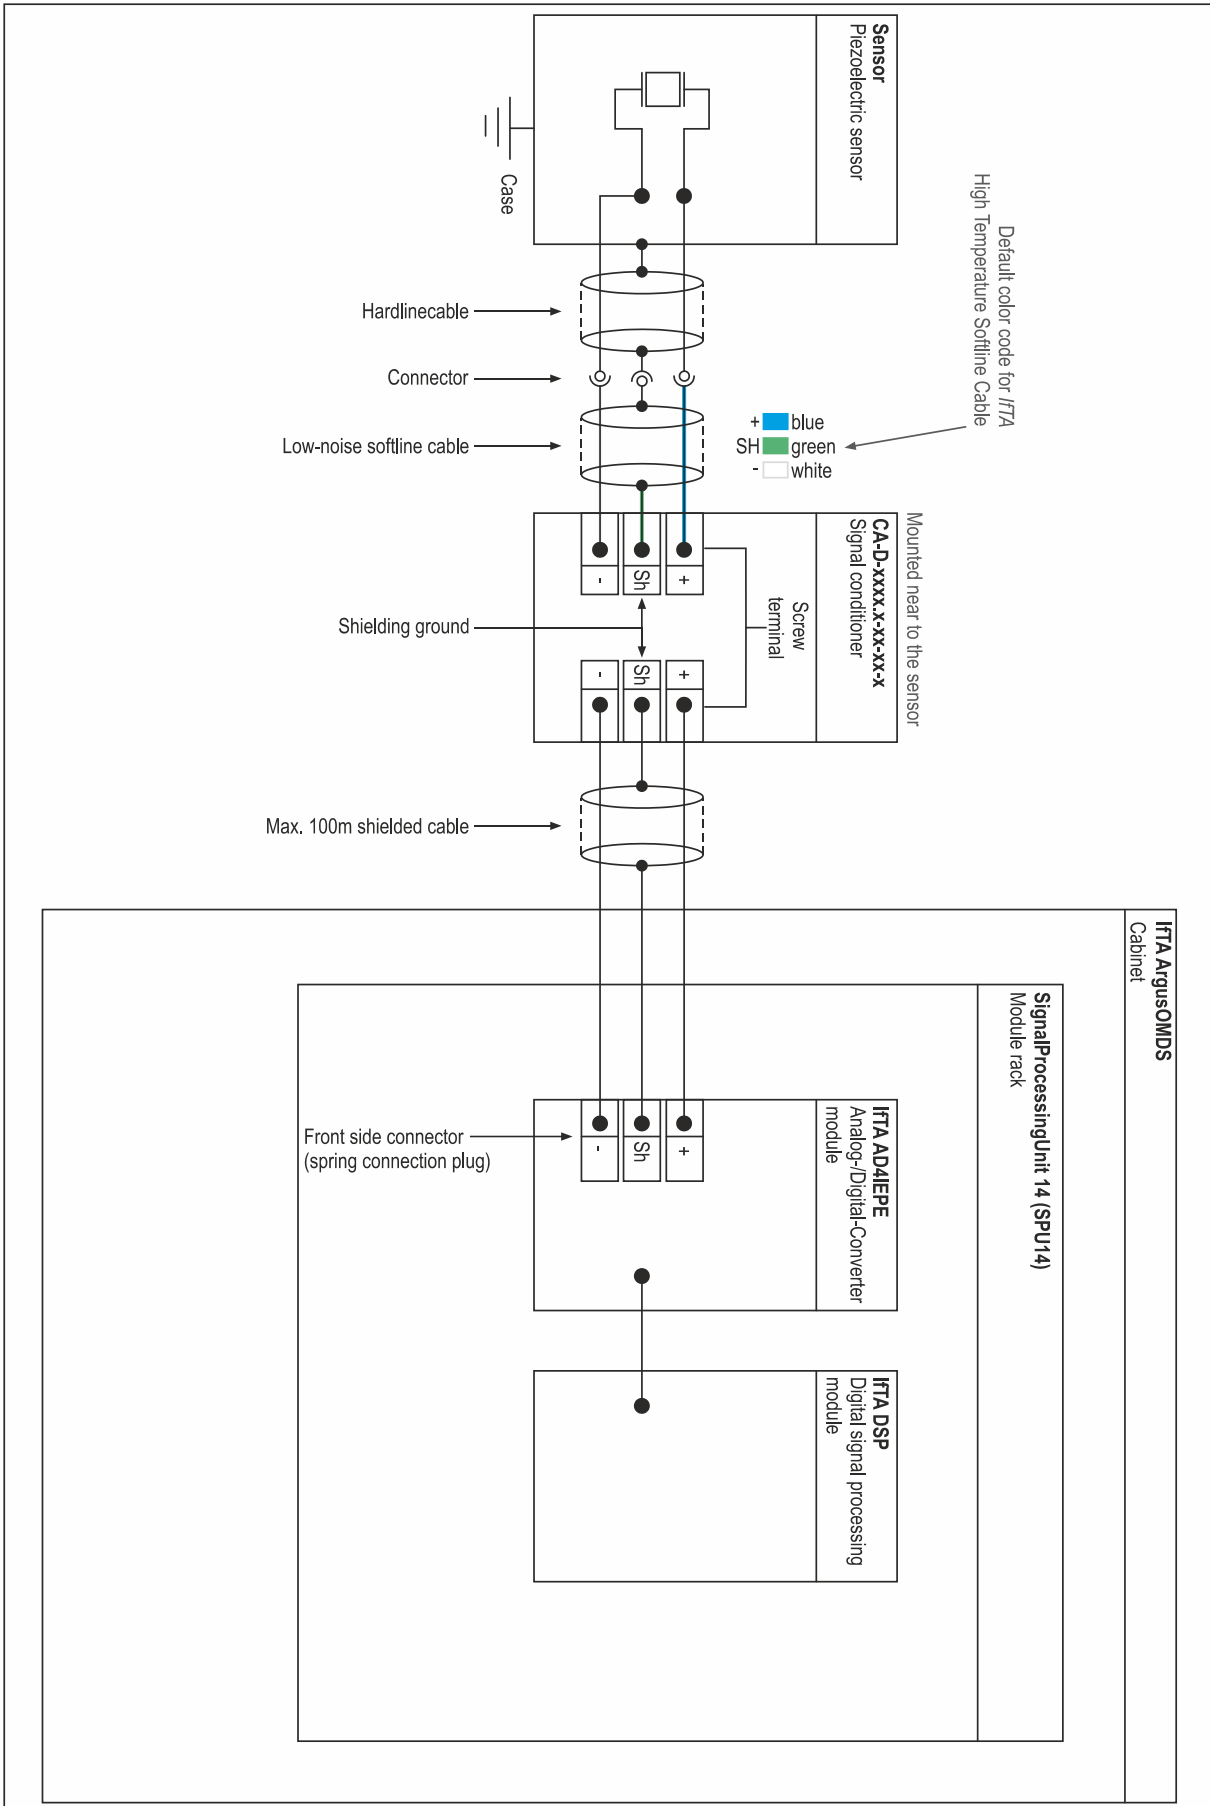
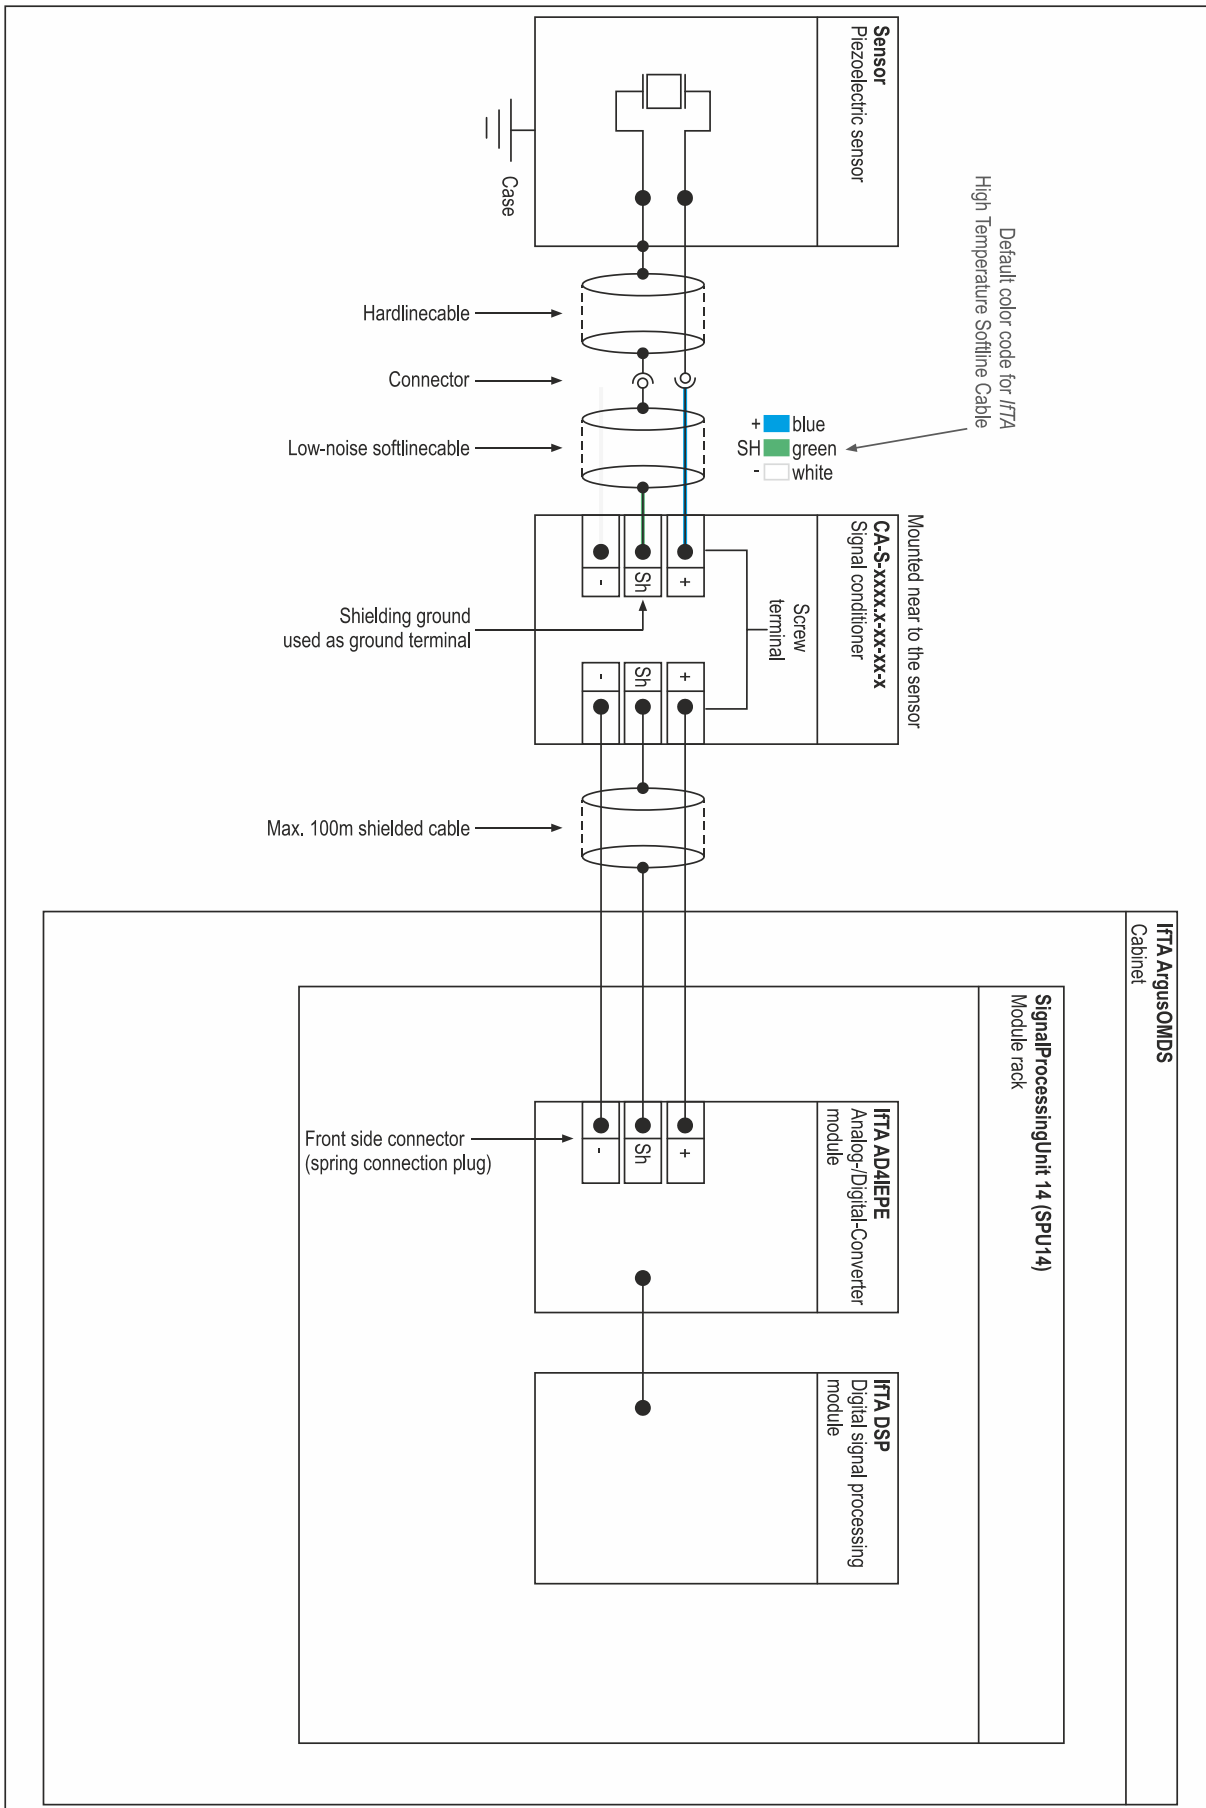

Figure 7: Schematics of the differential mode measurement chain (figure similar, subject to modification)
Figure 8: Schematics of the single ended mode measurement chain (figure similar, subject to modification)
3-pin screw terminal (the exact pin assignment is shown in Figure 7 and Figure 8)
For detailed information regarding the pin assignment see **Figure 7** and **Figure 8** below.
The *CA* is best used in a measurement setup with an **IFTA** system like the *ArgusOMDS*. This chapter includes two example configurations for both differential and single ended mode and the use with an *ArgusOMDS* system. The schematics are shown in the **Figure 7** and **Figure 8** below.
- (1) Ensure that the cable type is fitting the described specification above.
- (2) Connect the cable to the corresponding pin of the two screw terminals (the exact pin assignment is shown in **Figure 7** and **Figure 8**).
- (3) Install the cover of the industrial housing again.